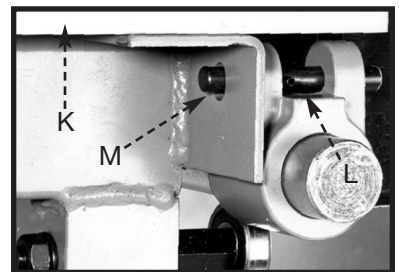

Fig. 38
- Fig. 38 illustrates the sliding table (K) locked in the forward position. The lock pin (L) is moved to the left through the hole (M) in the table bracket to lock the table in place. To slide the table on the rail, move the lock pin (L) to the right.